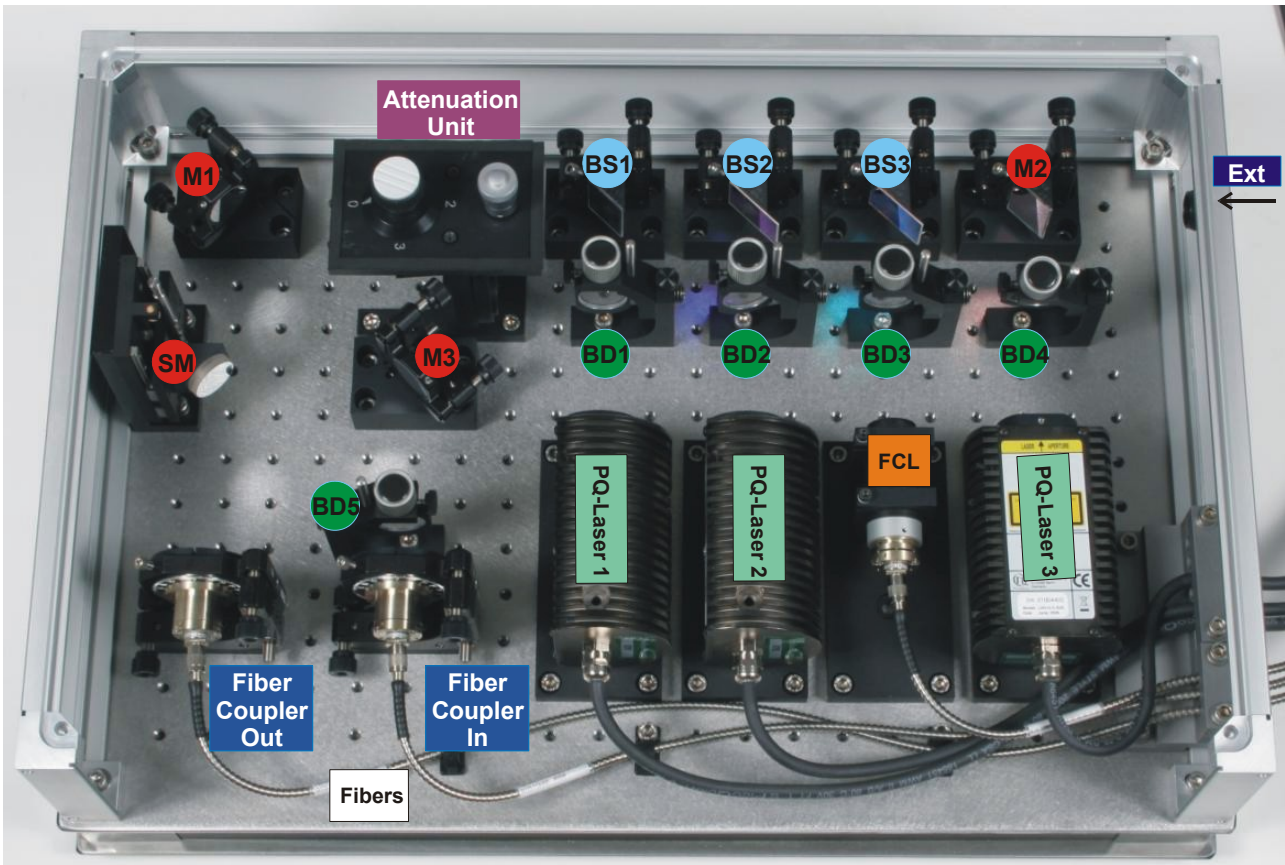

Fig. 2.6: Bypass configuration of the LCU: The Sliding Mirror **SM** allows to switch between internal lasers and external fiber coupled lasers.
The bypass configuration of the LCU is shown in Fig. 2.6. It enables the user to switch between external lasers, for example continuous wave lasers, and the internal PicoQuant laser heads without any fiber exchange or realignment. The external lasers are guided via an optical single mode fiber through the **Fiber Coupler In** into the LCU. The sliding mirror **SM** switches between the internal and the external lasers.
11. Do **not** touch the alignment of the **Fiber Coupler Out**, Mirror **M1** and **M3** of Fig. 2.6.